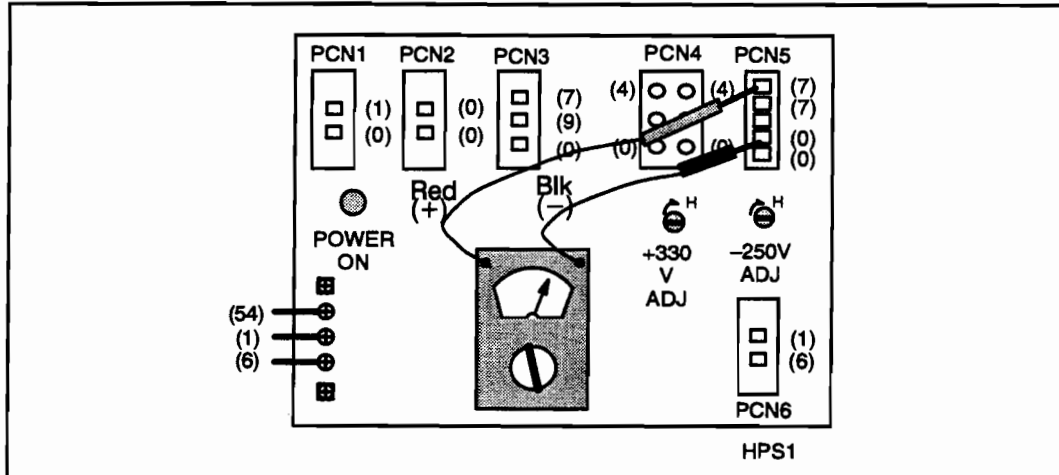

Figure 7-16. -250 V Power Supply Adjustment
15. Insert the voltmeter probes (+ to Pin 1 and – to Pin 4) into the female side of the plug. See Figure 7-16.
16. Turn the plotter line switch to ON (I).
19. Turn the plotter line switch to OFF (O) and remove the voltmeter probes.
21. Reset the MOTOR switch on the front panel to ON (I)